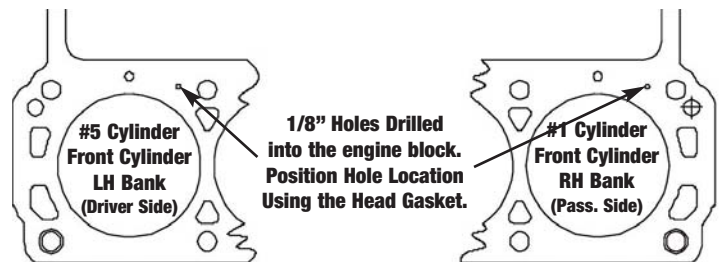

Figure 2 - Steam Hole Locations for Early 289 & 302 Blocks
- a) Late model 289-302 blocks have the water passages located next to the head bolt location on the deck of the block (This block **will not** require drilling). b) Early 289-302 blocks will have the water passages located directly over the cylinder upper deck area and will require drilling 1/8" steam holes as seen in Figure 2.